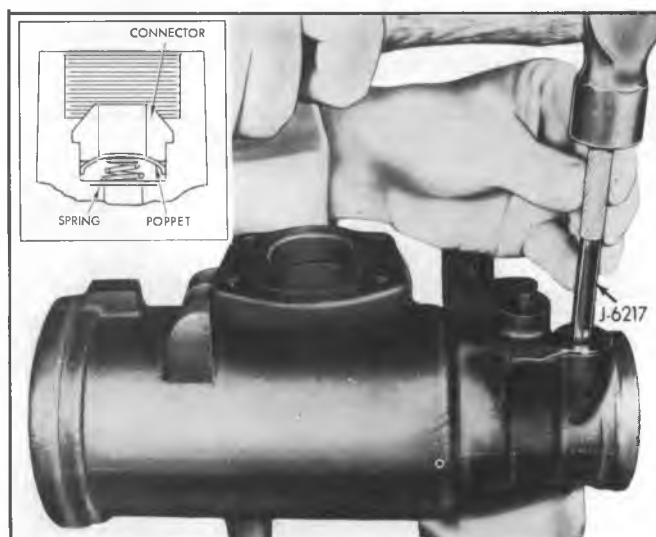

Fig. 49—Installing New Connector in Housing
5. Drive the new connector against the housing seat using Tool J-6217, being careful not to damage either the connector or housing seat (fig. 49).